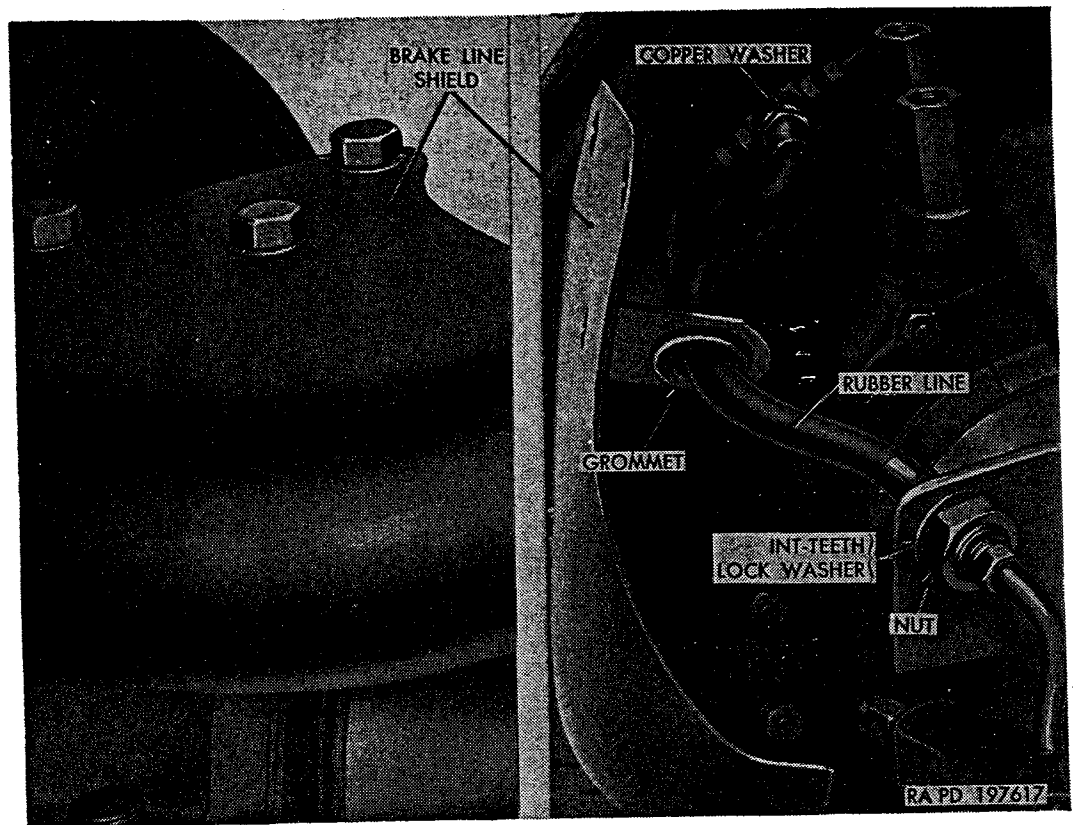

Figure 251. Front brake rubber line installed.
- (1) *Front axle to brake rubber line replacement* (fig. 251).